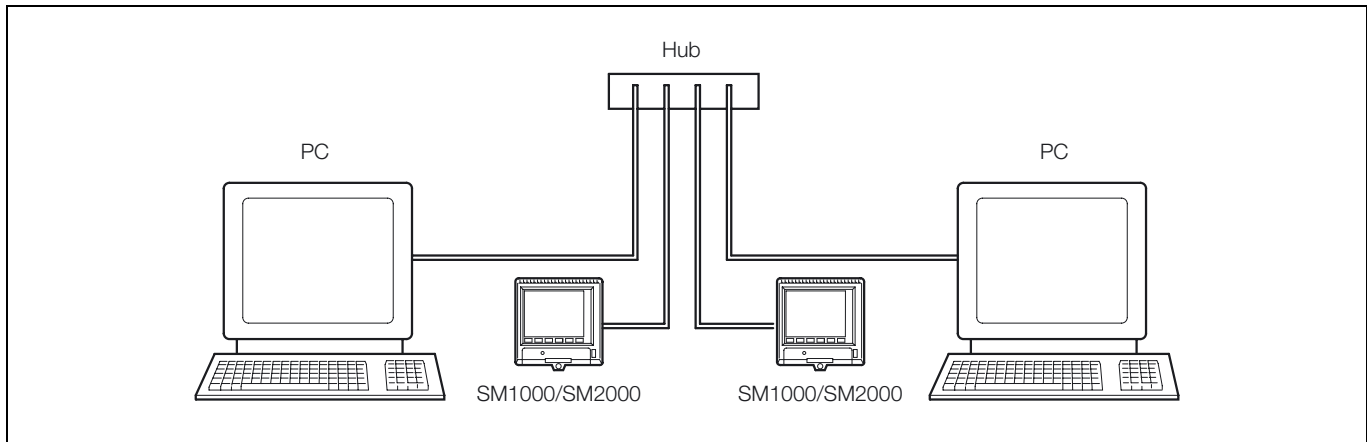

Fig. 2.4 Connection to a Network Hub
- Connection to a network hub – see Fig. 2.4
2.3 Connection to a Network Hub – Fig. 2.4